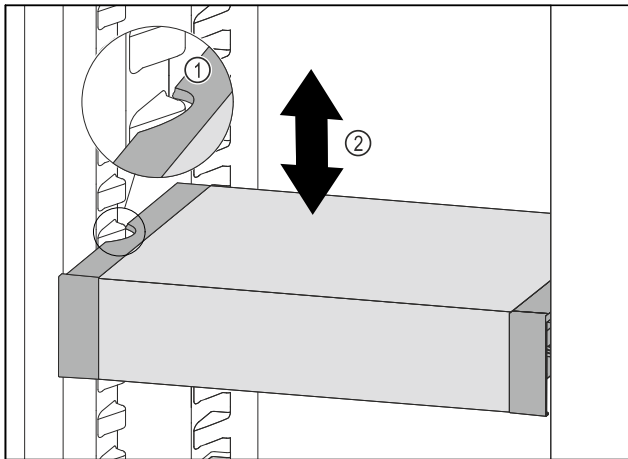

Fig. 83
- ▶ Pull VarioSafe forwards until the recesses in the side of the VarioSafe are at the level of the support rib in the refrigerator compartment. Fig. 83 (1)
- ▶ Move VarioSafe up or down in the refrigerator compartment until the desired height is reached. Fig. 83 (2)